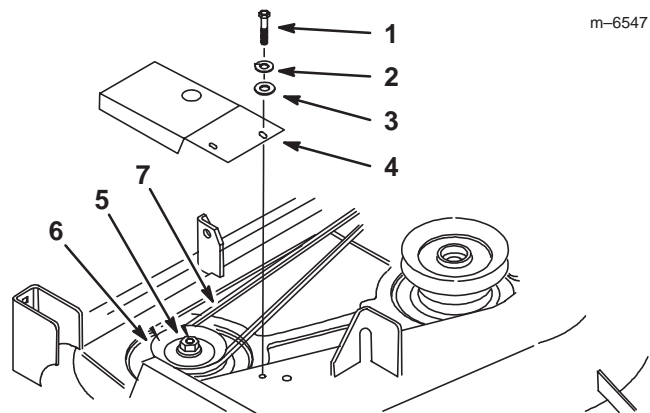

Figure 2
2. Remove the belt guard from the right side spindle (Fig. 2).
4. Remove the right side spindle pulley (Fig. 2). Save the flat washer and nut.
6. Install the mower belt. Ensure the belt is installed onto the lower right pulley (Fig. 2).